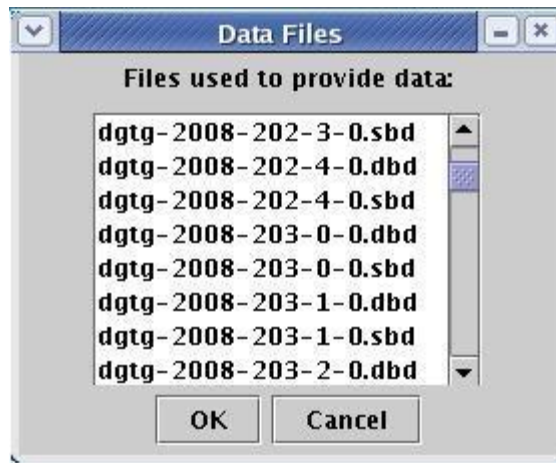

Figure 10-7. Dialog for viewing files used to provide data
1. Select Dates/Select data files. A scrollable list of files will then appear (similar to that shown in shown in Figure 10-7).
The Data Files dialog in Figure 10-7 can also be used to select which data is to be displayed. For example, highlighting files **dgtg-2008-202-4-0.dbd** through **dgtg-2008-203-1-0.sbd** from the multi-selection list and selecting 'OK' will update the Data Visualizer display to only show data from those files. This provides an alternative mechanism to drill-down on data obtained from specific files. Finally, the Data Files dialog will remain visible, and in-step with any displayed data, until 'Cancel' is selected.